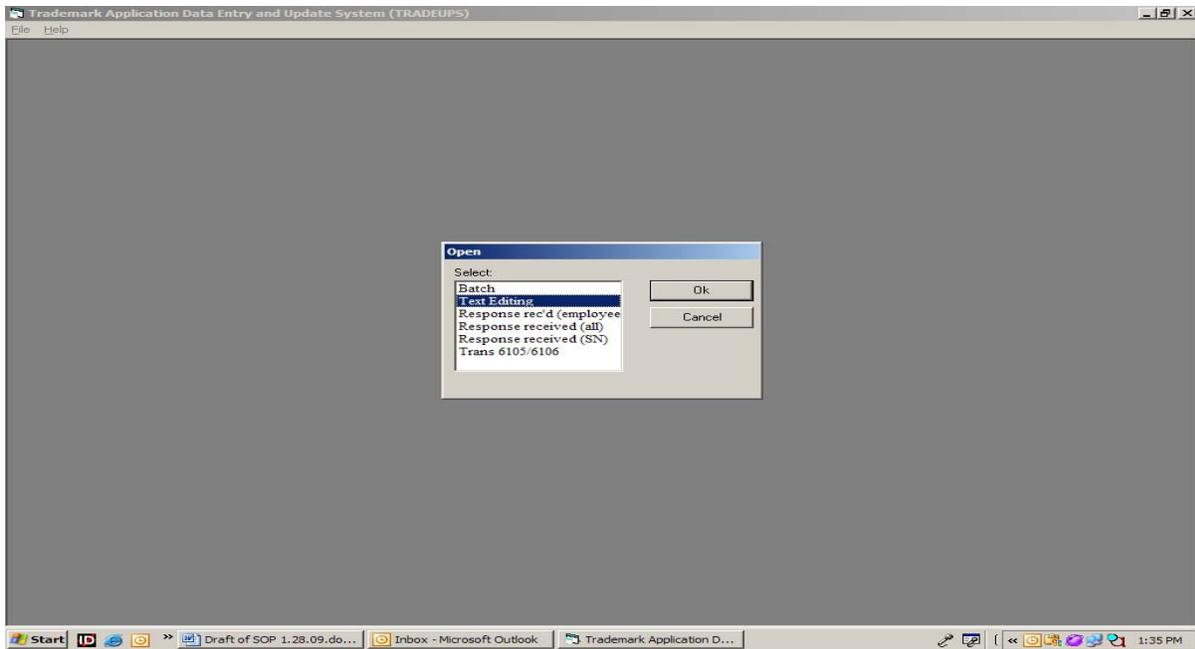

Figure 1-25: The Text Edit Selection in TRADEUPS
Step 6: Select “Text Editing” from the menu (Figure 1-25).